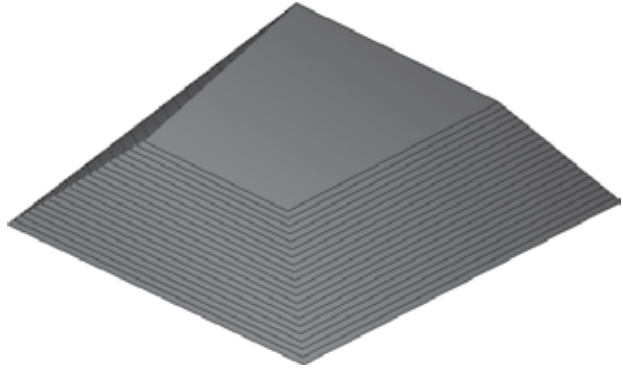

Figure 7.40
8. From the Quick Access toolbar select the 3D icon to switch to 3D view, and from the View toolbar activate the shaded view or click the shortcut SD (Figure 7.40).